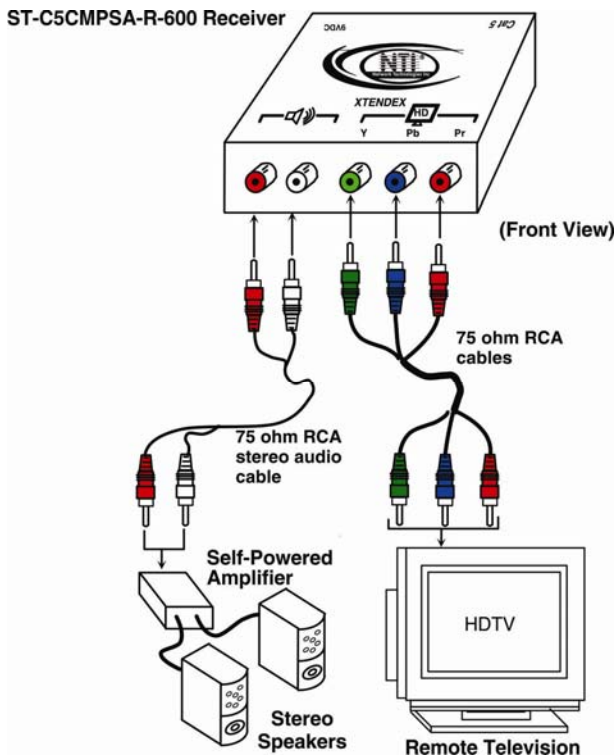

Figure 6- Connect the Extended Components to the Receiver
2. Connect 75 ohm RCA cables between the remote HDTV and the RCA connectors marked "Y", "Pb", and "Pr" on the Receiver as shown in Fig. 6.
3. Connect coax cable for stereo audio cable between the audio connection(s) on the Receiver and the audio device. (See Fig. 6)